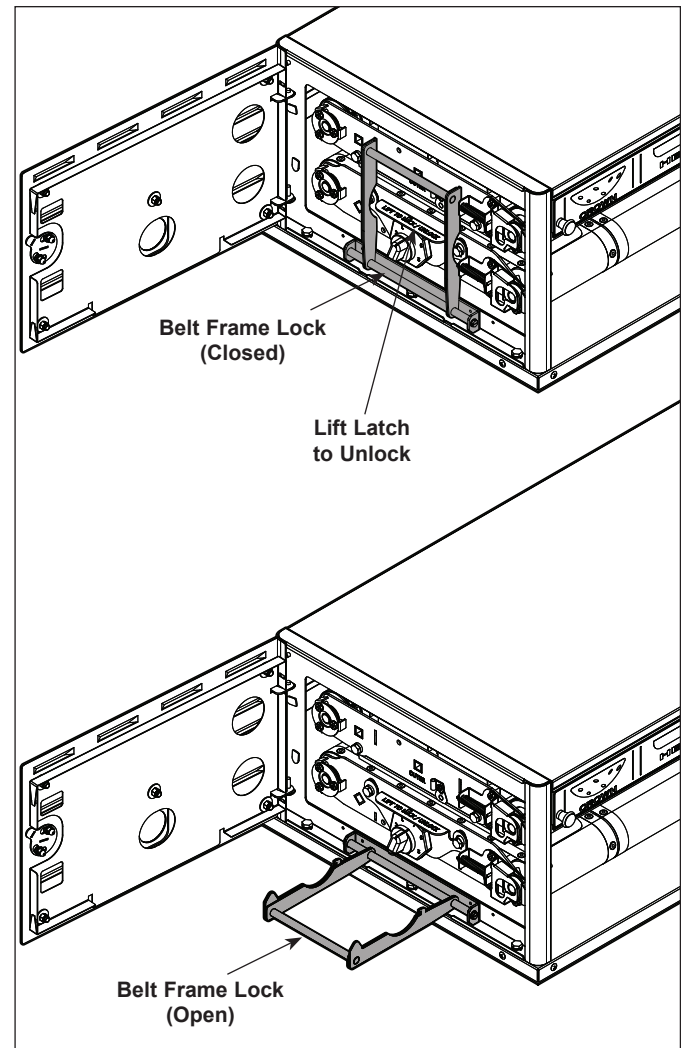

Figure 5. Belt Frame Lock
6. Refer to Figure 5. Lift the latch just above the Bun Compression Knob and then open the Belt Frame Lock as shown.
7. Close the Belt Frame Lock firmly into place (Figure 5) and press the latch in Figure 5 down.